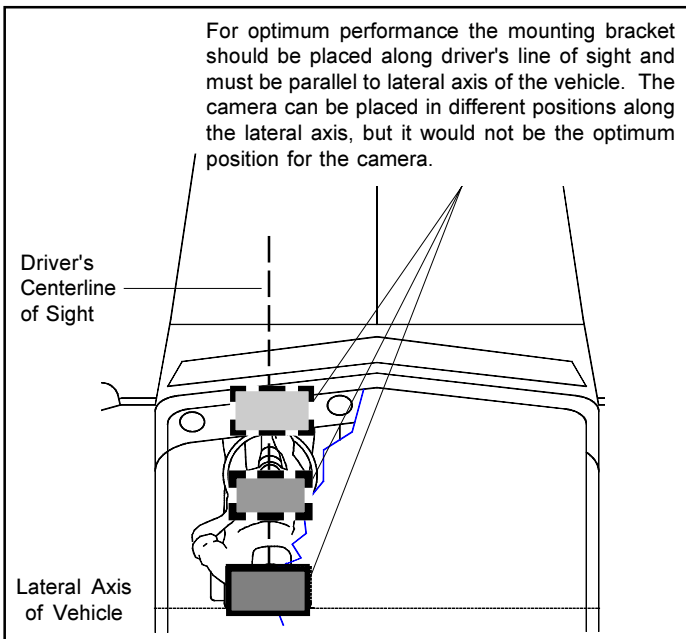

Figure 3 Mounting bracket location with respect to lateral axis of vehicle and driver's centerline of sight.
5. Tape down the Camera Mounting Bracket Template. For best results, the bracket should be mounted anywhere along the driver's centerline of sight. See Figure 3.
6. Verify that the template is parallel to the lateral axis of the vehicle. This ensures that the bracket, when mounted, will face squarely forward. See Figure 3.